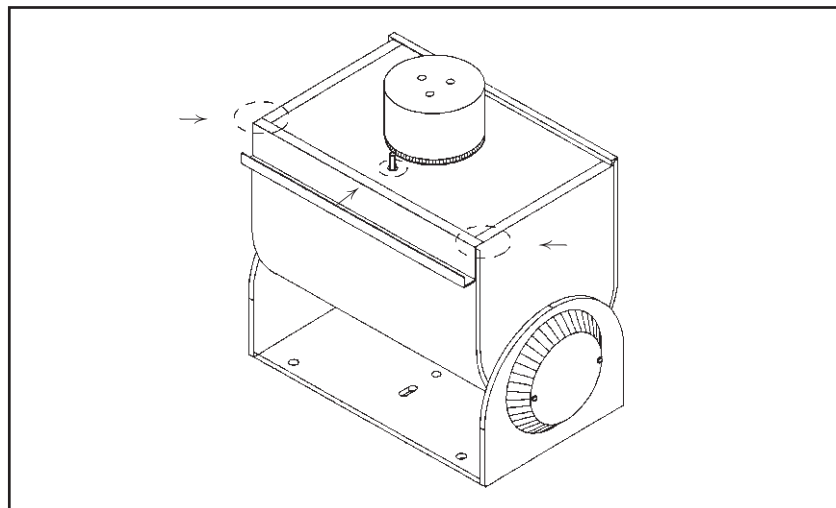

Figure 1. Sealant Locations
NOTE: When mounting the pan/tilt outdoors in the inverted position (base up), RTV silicone sealant, such as Dow Corning Type 732 or equivalent, should be applied to the areas indicated in Figure 1.
4. Reinstall the cover. If the pan/tilt is installed outdoors in an inverted position, apply RTV silicone sealant as shown in Figure 1.